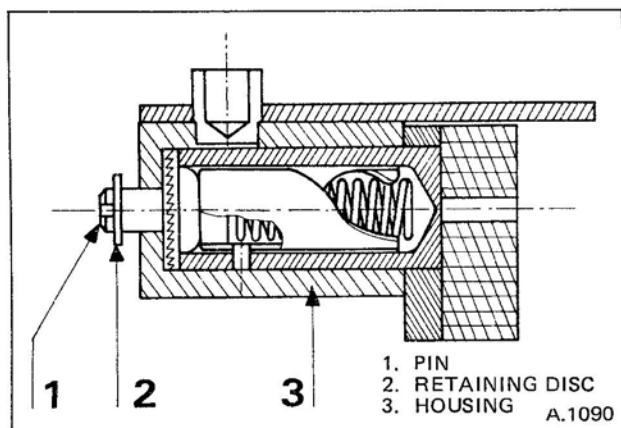

Fig. 1 Sectional view of chain tensioner
Push in the pin (1) (fig. 1) with a screwdriver until the retaining disc (2) makes contact with the housing (3); then turn it as far as it will go to the right (a maximum of three quarters of a turn).